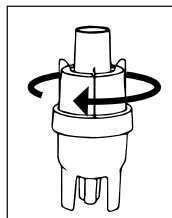

Fig.2
- c. Replace the top of the nebulizer and twist to close; gently pull the top to ensure the top is secure, Fig 2.